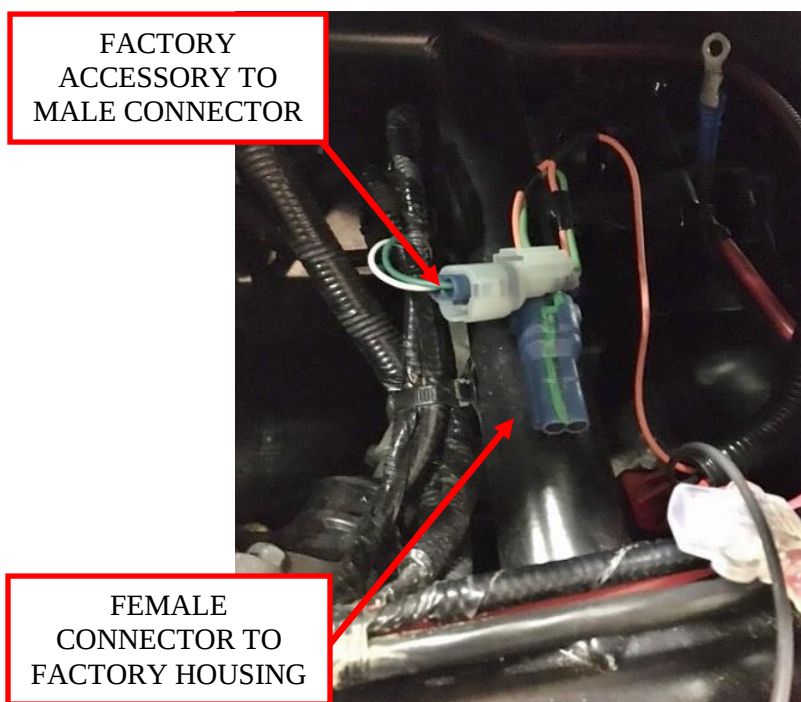

Figure 14: Connect to the accessory connector.
12. Unplug the factory accessory connector from the housing, and plug it into the mating male *Audio Shade* chassis connector. Plug the female *Audio Shade* chassis connector back into the factory housing on the frame tube. See Figure 14.